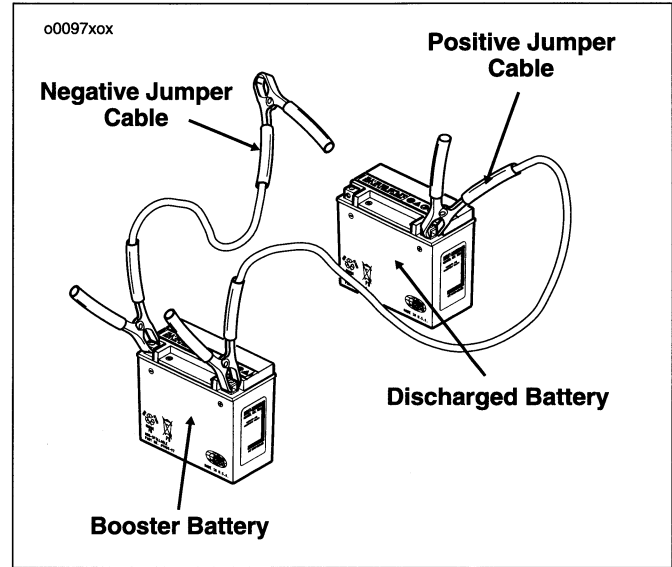

Figure 76. Jump Start Cable Connections
2. See Figure 76. Connect one end of a jumper cable to the DISCHARGED battery positive (+) terminal.